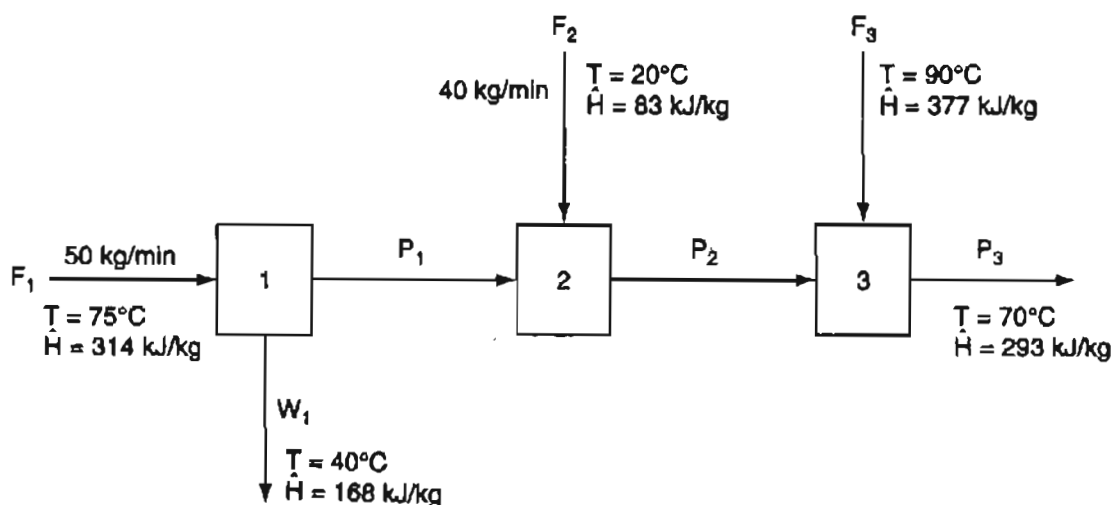

Figure P24.3
- *24.3** How many independent equations can you write for the water flows shown in Figure P24.3?